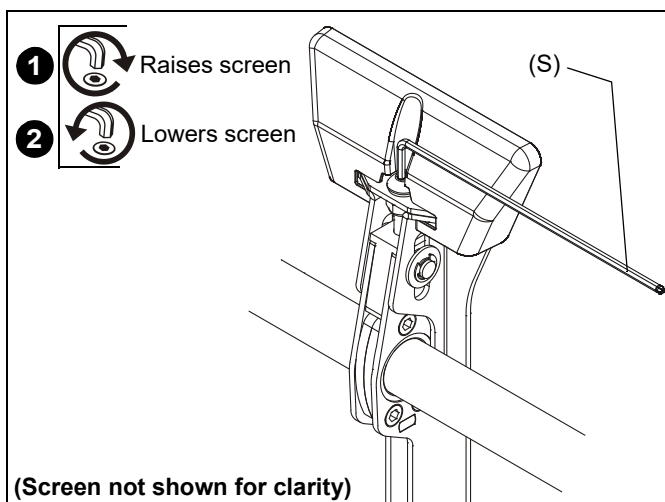

Figure 18
1. Turn to right (tighten) to raise side of screen. (See Figure 18)